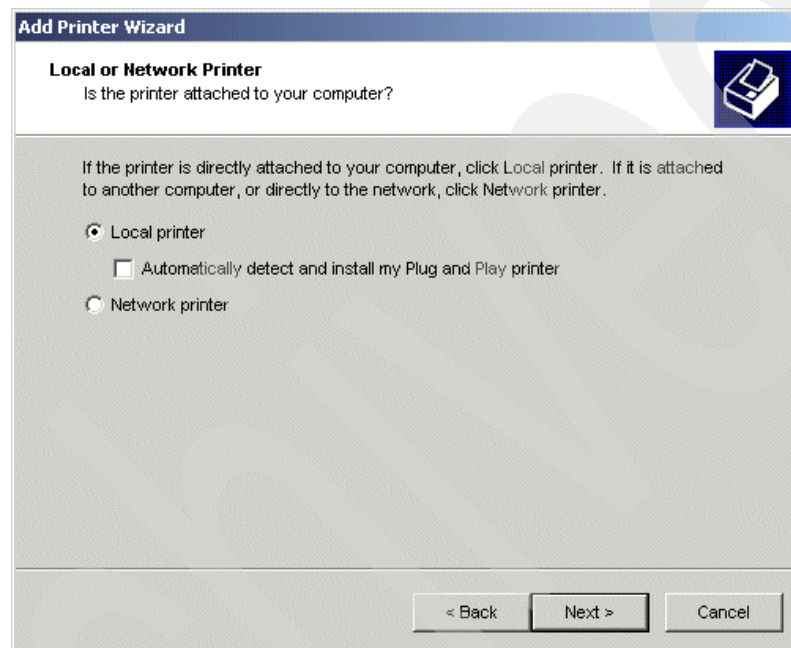

Figure 122. Selecting a local or network printer
2. After the welcome window appears, click **Next** to access to the next panel as shown in Figure 122.